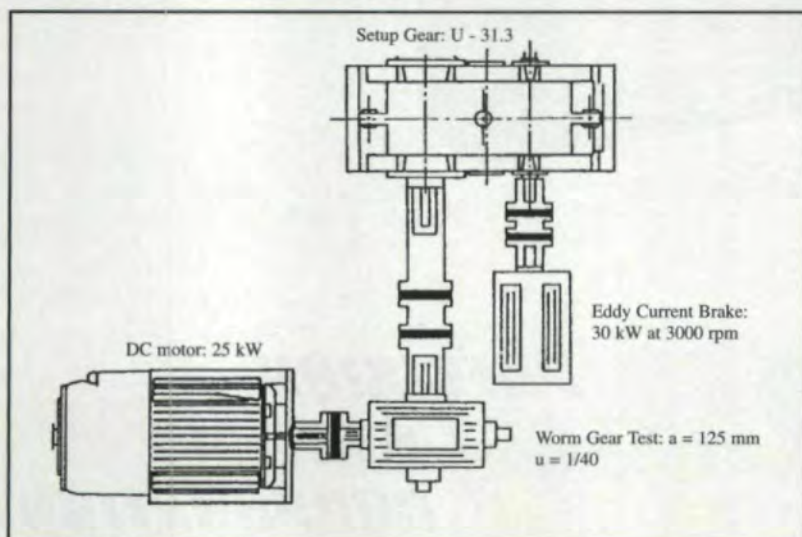

Fig. 2 — Worm gear test rig.
**Test Rigs' Description.** Each test rig consists of a variable-speed, DC motor that drives the worm of the reducer to be tested with a torque meter. The worm wheel of the reducer is connected to an increaser that drives an eddy current brake used to apply the load. The brake is set up in balance in order to measure the applied torque (Fig. 2).